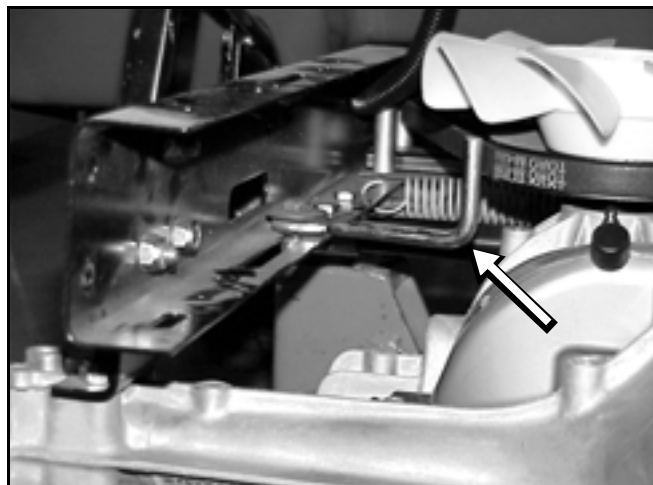

Figure 142
3. Loosen the transaxle belt guide located on the left side of the transaxle pulley and swing the guide away from the pulley (Figure 142).